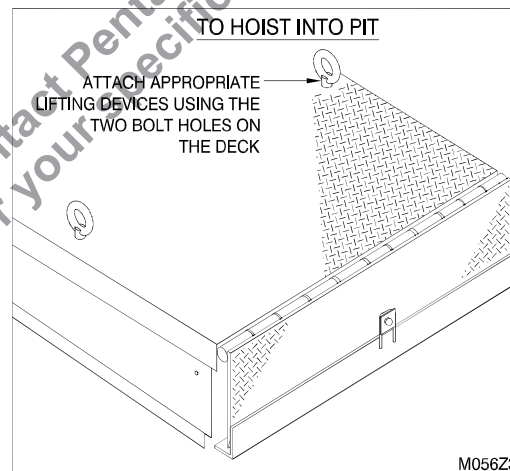

Figure 5: Attach Lifting Devices
6. ___ Install an appropriate lifting device into the two supplied holes and nuts (5/8"-11 UNC) in the dock leveler (See "Figure 5: Attach Lifting Devices" on page 8).